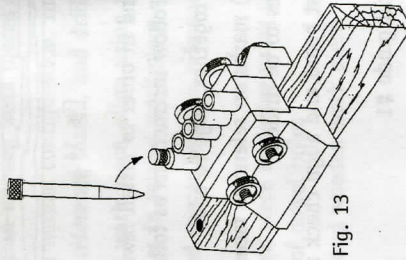

Fig. 13
6. Insert indexing tool as shown in Fig. 13